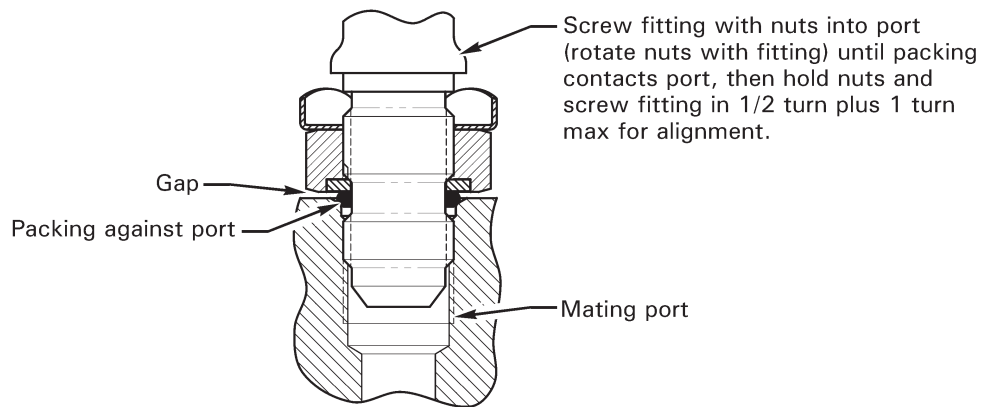

Figure 2B
- b. Refer to Figure 2B. Ensuring D452 nut turns with elbow, screw elbow into pump by hand until packing contacts pump. Hold nuts with wrench and screw elbow in one-half turn, plus one turn maximum to align elbow relative to pump per Figure 1 (inlet elbow parallel to motor axis and outlet elbow per Detail A).